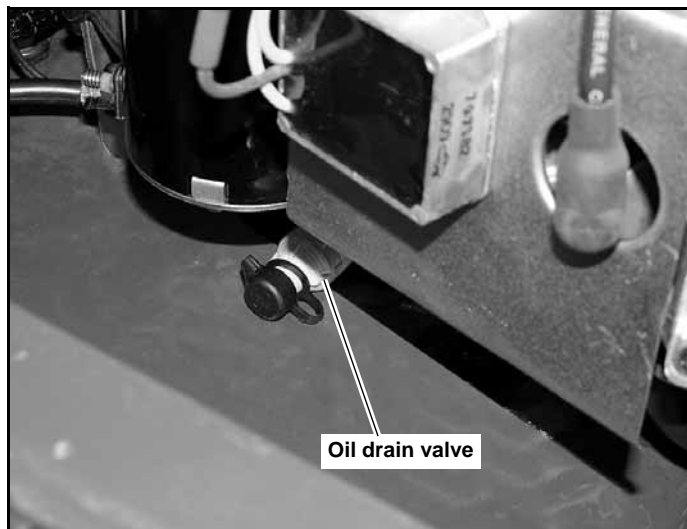

Figure 4-4
#### A. Draining the engine oil (units equipped with oil drain valve as shown in Figure 4-4).
1. Locate the oil drain valve on the lower left side of the engine. Figure 4-4